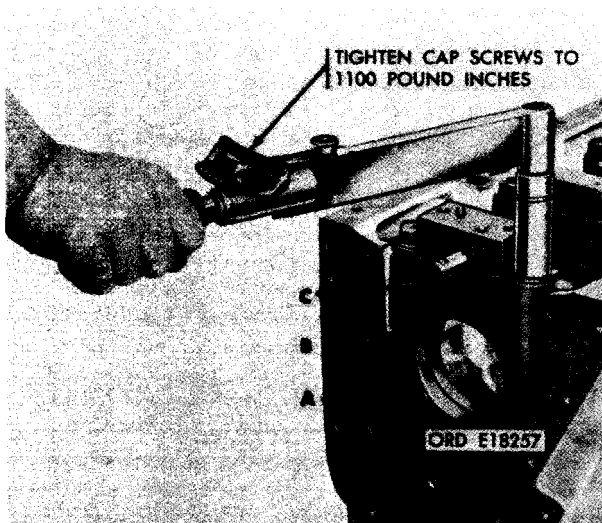

FIGURE 326. TORQUE TIGHTENING MAIN BEARING CAP SCREWS PRIOR TO MAIN BEARING BORE CHECK.
- (12) Check main bearing bores. Apply a thin coat of Prussian blue to backs of upper and lower bearing halves. The blue transfer will show bearing contact area in crankcase bore. Check main bearing bores as follows.
- (a) Figure 326. (A) Install the remaining six upper main sleeve bearing halves in their original location in bearing bore of cylinder and crankcase. Install the remaining six lower main sleeve bearing halves in their respective bearing caps. (B) Apply a light coating of engine oil OE-10 (MIL-0-2104) to the edges of the seven main bearing caps with sleeve bearing halves installed. Install bearing caps with bearing halves in their proper location in the crankcase, according to the location numbers stamped on the cap. The location numbers appear on the camshaft side of the cap. (C) Apply a small amount of mica-base antiseize compound (MIL-A-13881) to the threaded area of each main bearing cap screw. Install two plain washers and cap screws through each main bearing cap. Tighten each pair of cap screws alternately to a final torque of 1100 pound inches as shown.